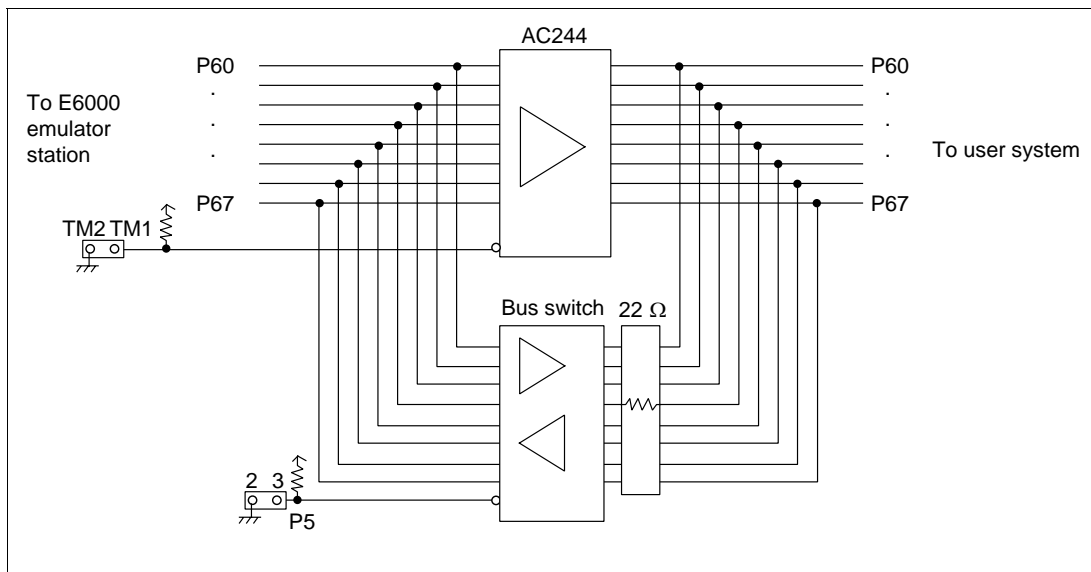

Figure 8 P60 to P67 Interface Circuit
4. The P60 to P67 pins are CMOS large-current ports in the MCU, but in the emulator, they are normal ports. However, when this user system interface cable is used, a large current of $I_{OL} = 10.0 \text{ mA}$ (max.) can be output from the ports by setting the jumpers shown in figure 8. Note that when the jumpers are set to the large-current mode, the P60 to P67 pins become output ports. Be sure to close only one of the jumpers; do not close both jumpers. Do not insert these two jumpers at the same time.